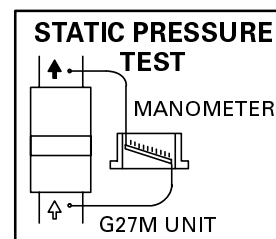

FIGURE 18
- 1 - Measure tap locations as shown in figure 18.